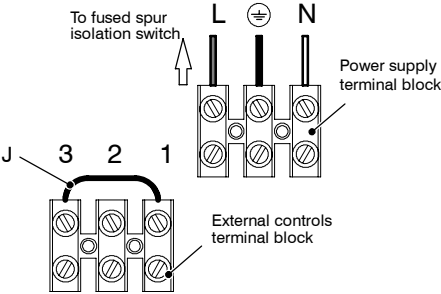

Fig. 6.17
- 6 Connect the electrical supply flexible cord coming from the fused spur isolation switch to the power supply terminal block of the boiler (Fig. 6.17) keeping the same connections for the live (brown wire) and the neutral (blue wire). External 3 A fuse or fused plug with same current rating is recommended.
When connecting any type of external control, the link J in Fig. 6.17 must be removed.